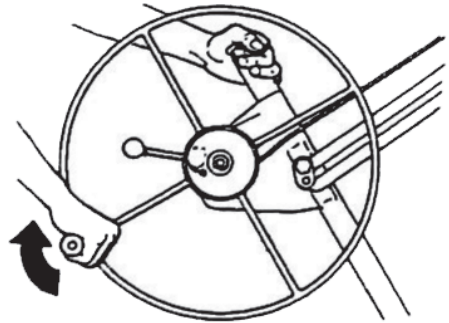

Fig. 23
- Unlock the winch assembly by lifting the slide bar with your left hand while you rotate the slide bar lock counterclockwise with your right hand. (Fig 23)